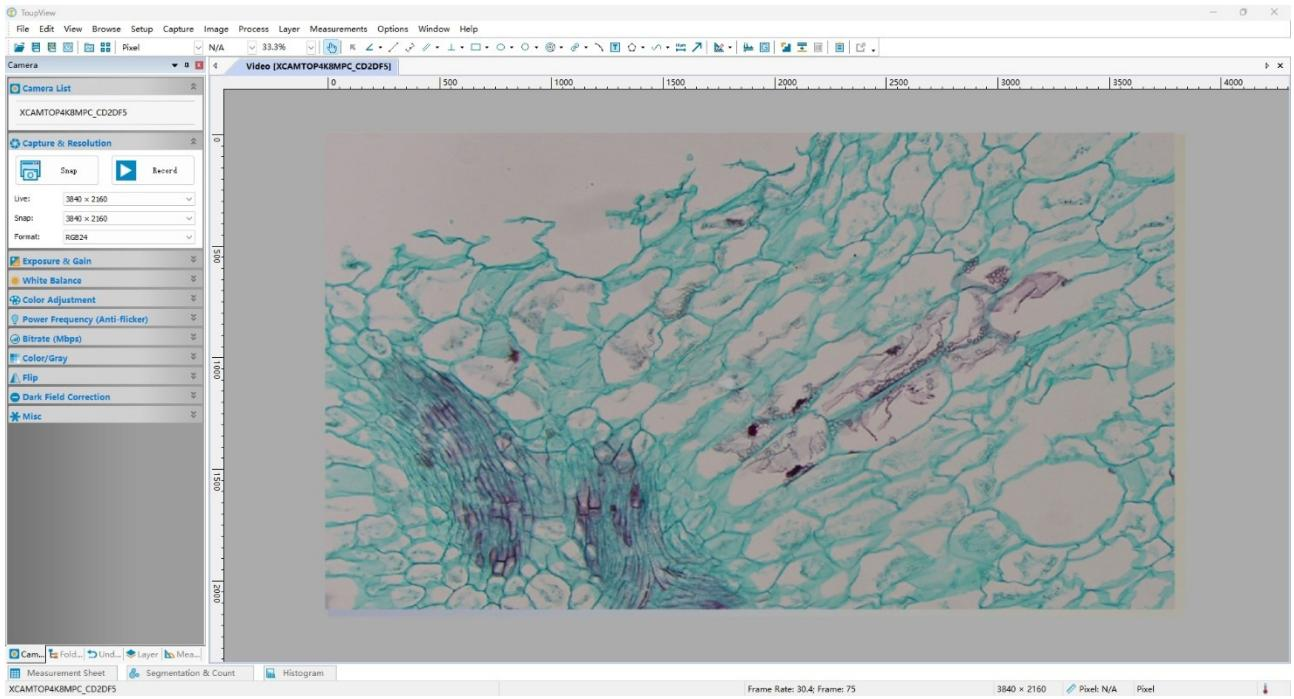

Figure 8 ToupView and SWIR330KMB-WUH Camera in WiFi AP Mode
- Start ToupView/ToupLite software or ToupView App and check the configuration. Normally, the active SWIR330KMB-WUH cameras will be automatically recognized. The live image of each camera is shown in Figure 8. For the display, the Camera List tool window is used in ToupView/ToupLite software, and the Camera Thumbnail is used in ToupView App.